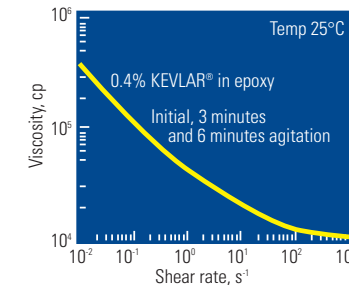
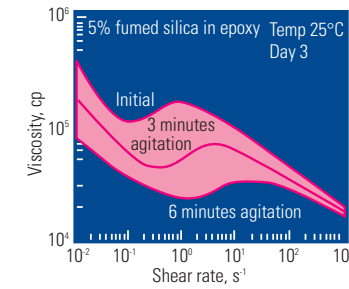

Figure 7. Effect of time on viscosity vs. shear rate for 0.4% KEVLAR® pulp in epoxy.
Figure 8. Effect of time on viscosity vs. shear rate for 5% fumed silica in epoxy.
- **Resistance to aging.** KEVLAR® pulps maintain their viscosity-building properties indefinitely due to the physical nature of the fibers and the thixotropic mechanism (Figure 7). The benefits of this superior resistance to aging are increased shelf life and consistent performance. In contrast, fumed silica loses its effectiveness as a thixotrope over time (Figure 8).